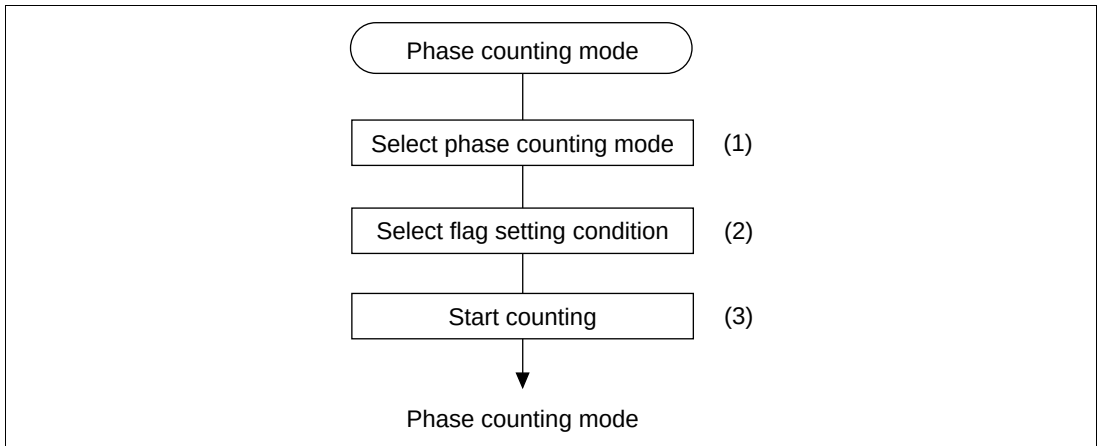

**Figure 10.42 Procedure for Selecting Phase Counting Mode**
**Procedure for Selecting Phase Counting Mode:** Figure 10.42 shows the procedure for selecting phase counting mode.